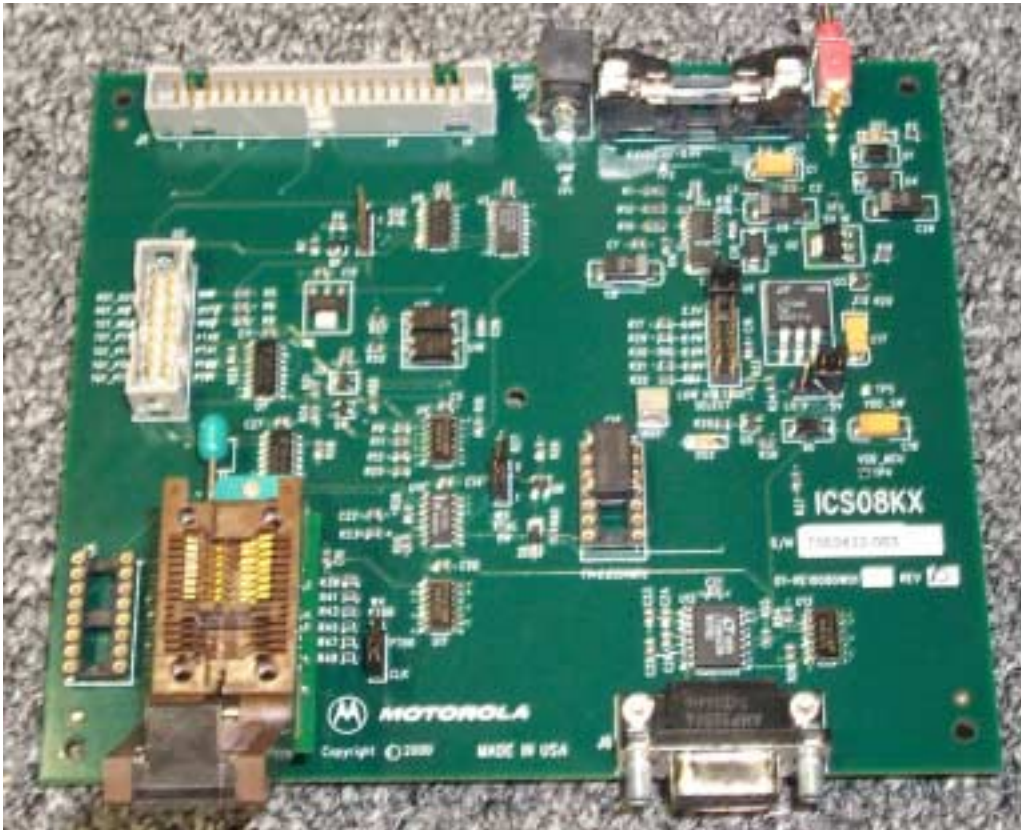

Figure 2-1 KXICS with SOIC-to-DIP Adapter
1. Place the pin tension arm of the KXICS DIP socket XU1 (Figure 2-1) in the up position.
2. Install the SOIC-to-DIP adapter into the DIP socket XU1 (Figure 2-1). Be sure that the pin 1 orientation of the adapter aligns with the pin 1 location on the DIP socket (upper left pin of the DIP socket).